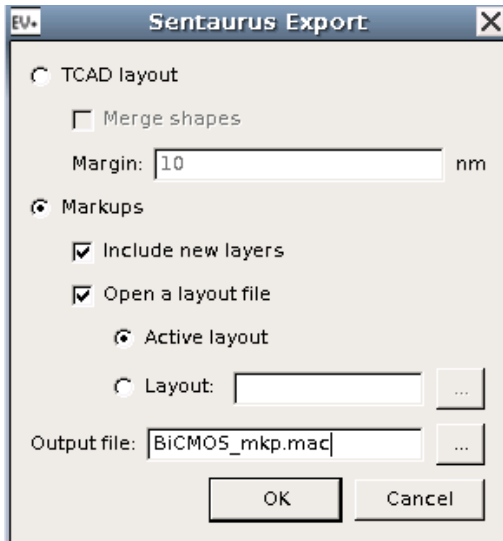

Figure 92 Sentaurus Export dialog box, showing options for saving markup file
2. In the Sentaurus Export dialog box, select the **Markups** option (see Figure 92 on page 299).